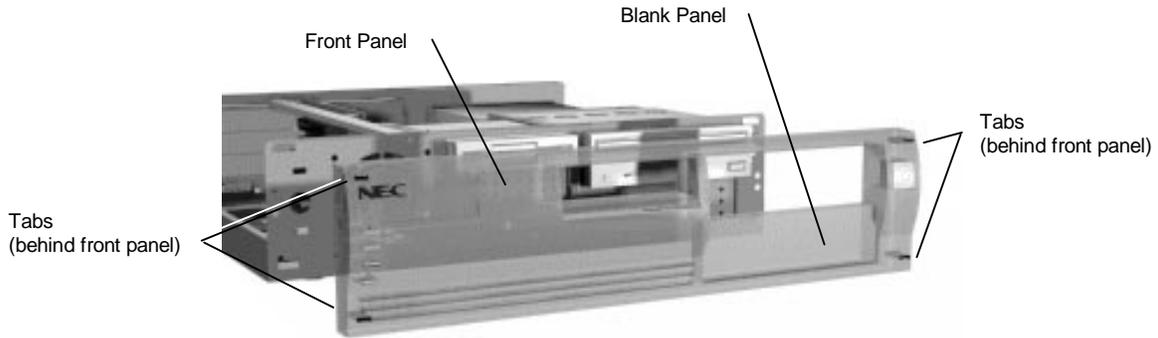

Figure 3-22 Removing the Front Panel
2. Remove the front panel by releasing the four tabs from the back of the front panel (see Figure 3-22).